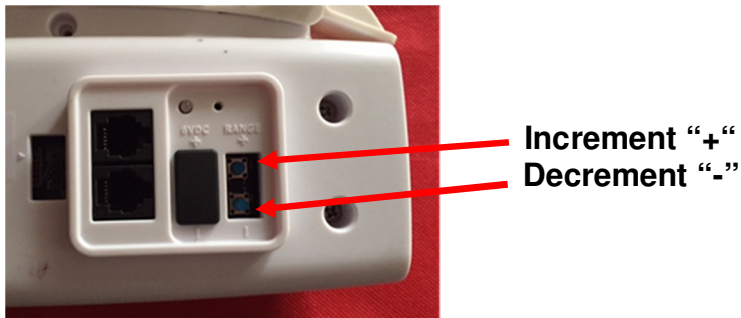

Figure 11. *Bed Beacon Range Adjustments*
The **Bed Beacon** communication range is adjusted during installation to optimize communication with the healthcare worker **Badge**. To adjust the communication range, remove the rubber range cover (see *Figure 11*) located on the back of the **Bed Beacon**. After the range cover has been removed, the **Bed Beacon** communication range is adjusted by repeatedly pushing either the “+” increment or the “-” decrement range buttons (see *Figure 11*) to achieve the desired range. The total adjustable range of the **Bed Beacon** is from 1 to 10 increments between the lowest and the highest setting. Each push of the “+” button will produce an audible beep and the green LED will flash once indicating one (1) increment up. When the highest setting is reached, two (2) audible beeps will be heard and two (2) green LED flashes will be visible. Each push of the “-” button will produce an audible beep and the red LED will flash once indicating one (1) increment down. When the lowest setting is reached, two (2) audible beeps will be heard and two (2) red LED flashes will be visible. To reset a **Bed Beacon’s** range back to the factory default setting, push and hold both the “+” and “-” buttons at the same time. Three (3) audible beeps will be heard and the LEDs will simultaneously flash green three (3) times. The factory default range setting for the **Bed Beacon** is position 10. Replace the range button cover when the adjustment is complete.